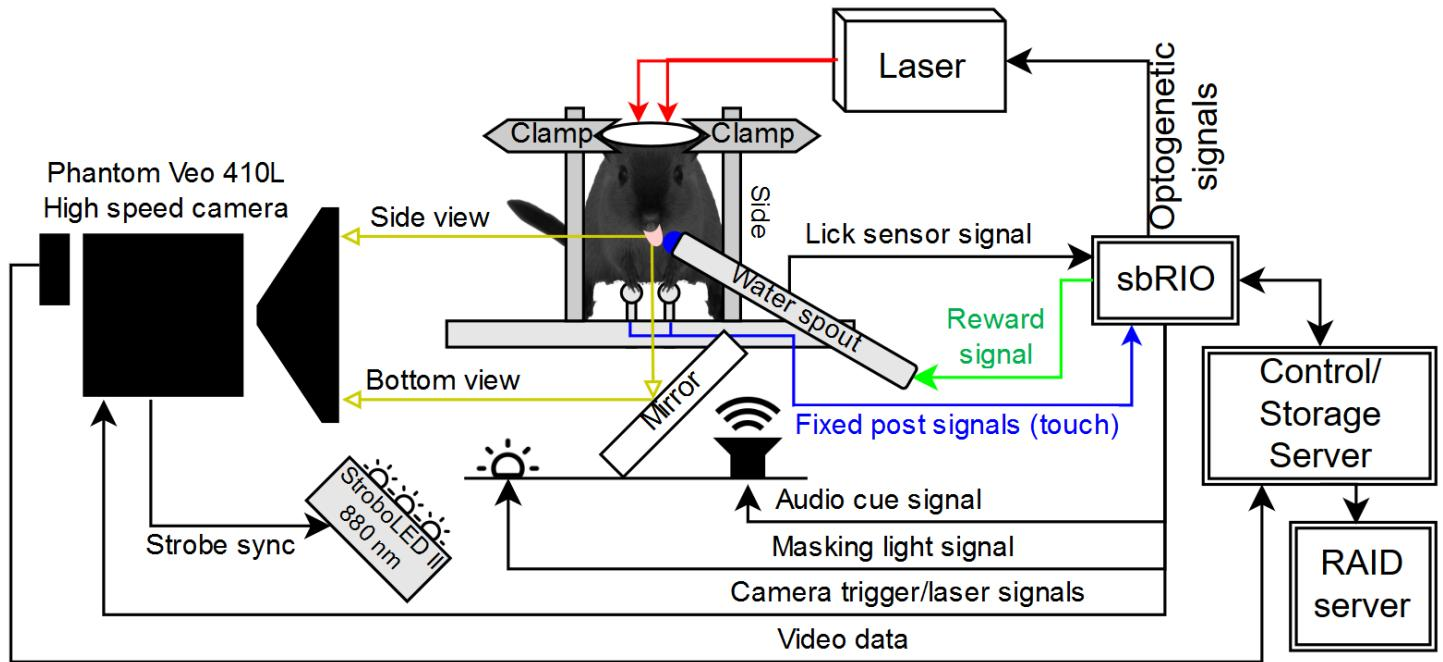
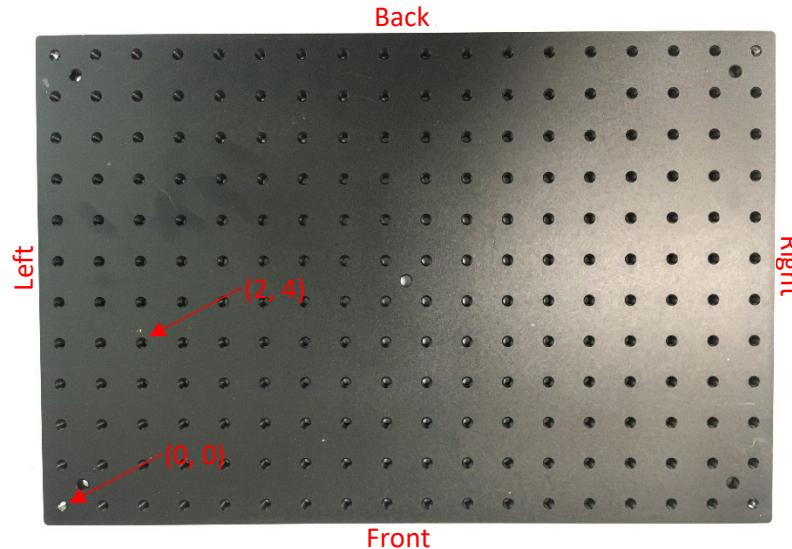

Figure 2 Overall system diagram
Figure 1 The coordinate system used throughout the documentation
This guide describes in detail the process for building a mouse head-fixed lick rig for studying mouse neurobiology via lingual kinematics. This rig is capable of collecting millisecond resolution lick and paw touch data, and lick-triggered high speed (1 kHz) video of simultaneous side and bottom views of the tongue as it licks within a flexible experimental paradigm that can include optogenetic inactivation. See Figure 1 for a diagram of the coordinate system used throughout the documentation. See Figure 2 for an overall diagram of the system. Some have been custom machined or 3D printed – the specs for these components are made available at the following URL: <https://github.com/GoldbergLab>. We built a single setup for taking high speed video (a “video box”), and several for simply training the mice without video. The instructions for creating a training box are a subset of the instructions for creating the video box.
- See Figure 1 for an explanation of the coordinate system used here.